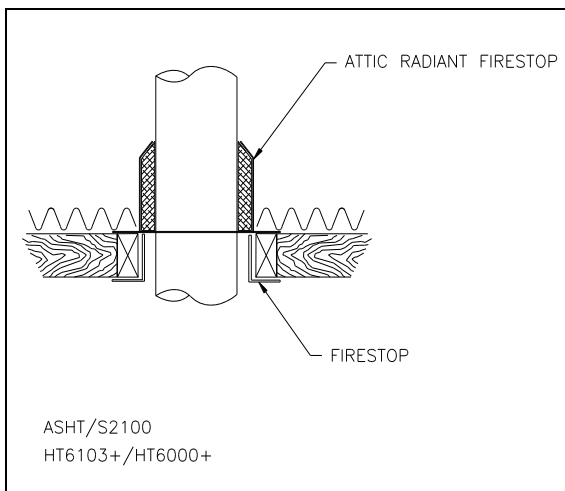
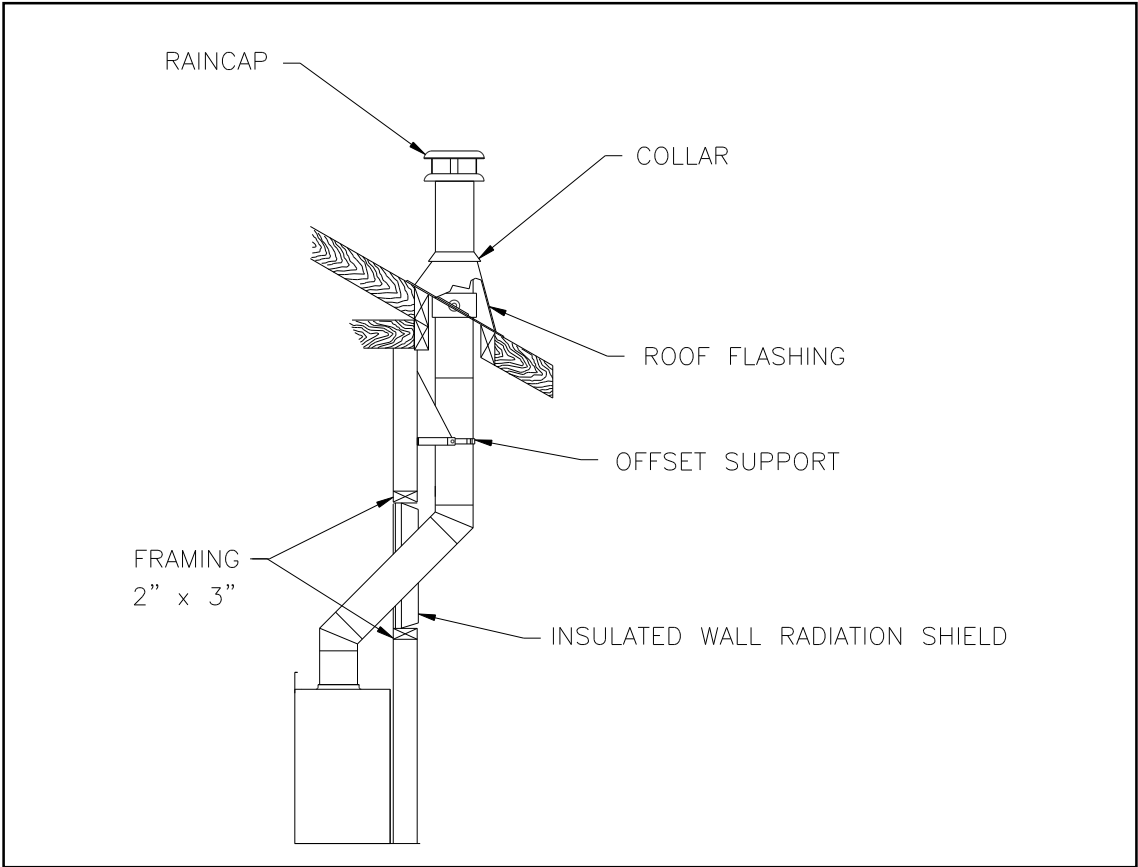

Figure 28
Figure 34
2. From below, install a firestop in each ceiling/floor separation through which the chimney will pass. At the attic level, install an attic radiation shield from above (figures 28 & 29).
1. Install the first elbow; turn it in the required direction. Fasten it to the chimney with the three (3)  $\frac{1}{2}$ " (12 mm) metal screws provided with the elbow.
2. Install the necessary chimney lengths to achieve the required offset. Lock the chimney lengths together: it is recommended to use three (3)  $\frac{1}{2}$ " (12 mm) screws. If the offset length is made of two (2) chimney lengths or more, use an offset or roof support halfway up the offset. If penetrating a wall, install a wall radiation shield (see figures 34 & 35).
3. Use another elbow to turn the chimney vertically. Secure the elbow, using three (3)  $\frac{1}{2}$ " (12 mm) screws (provided with the elbow).
5. From below, install a firestop (See figure 28).